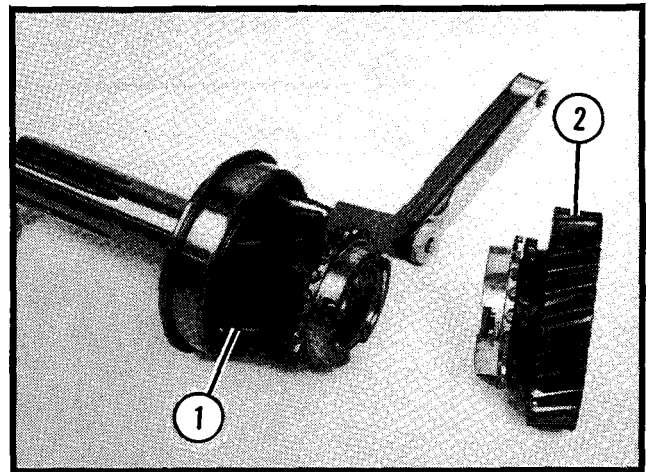

Figure 5.
1. Check clearance between bronze synchronizer ring and high gear. Check clearance between bronze synchronizer ring and second gear. See Figure 5.